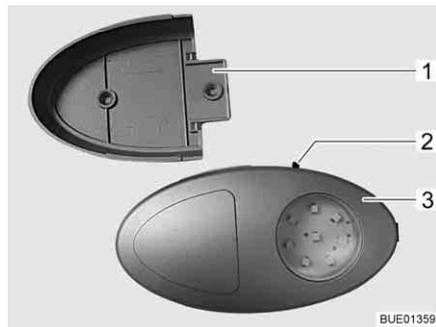
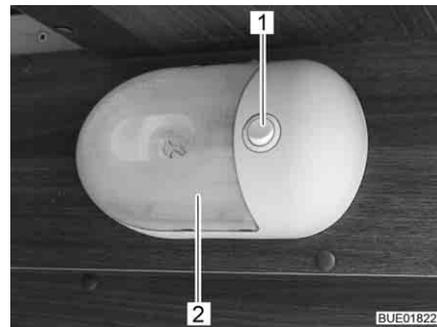

Fig. 97 Wardrobe light/torch
Fig. 98 Wardrobe light
- ▷ The wardrobe light can be removed from its holder (Fig. 97,1) and used as a torch.
The On/Off switch (Fig. 97,2 or Fig. 98,1) is located directly on the wardrobe light (Fig. 97,3 or Fig. 98,2).